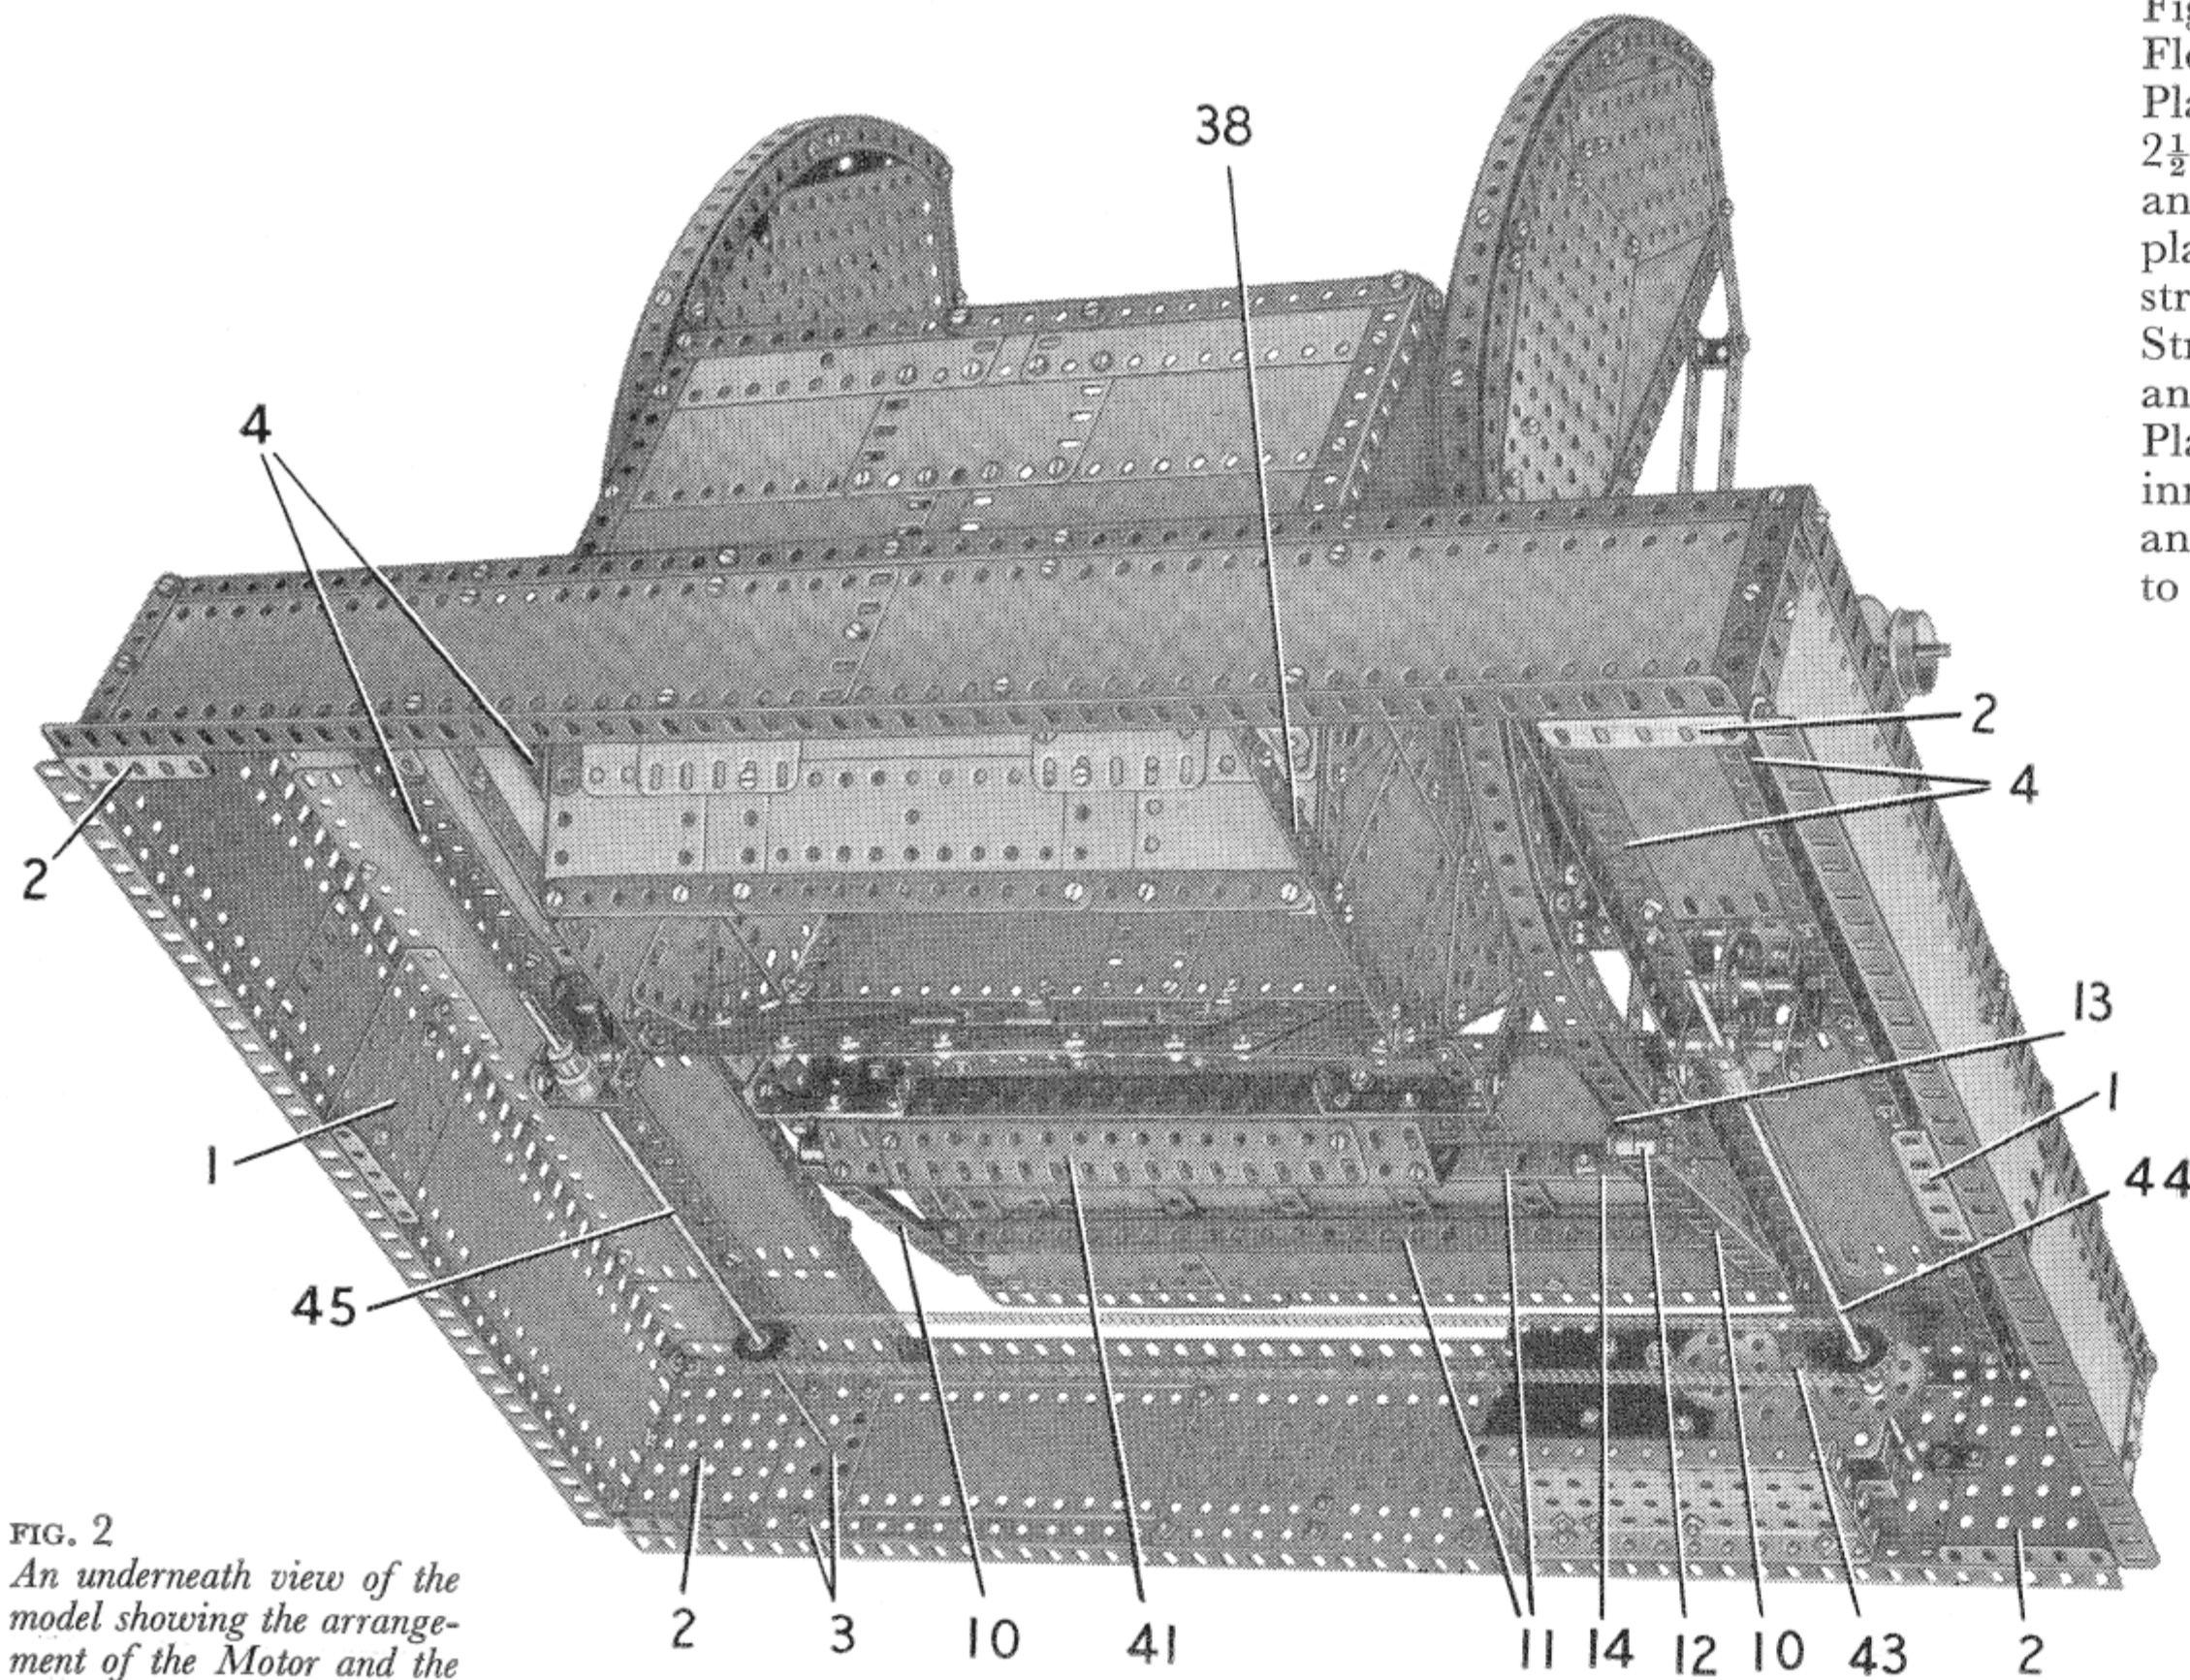
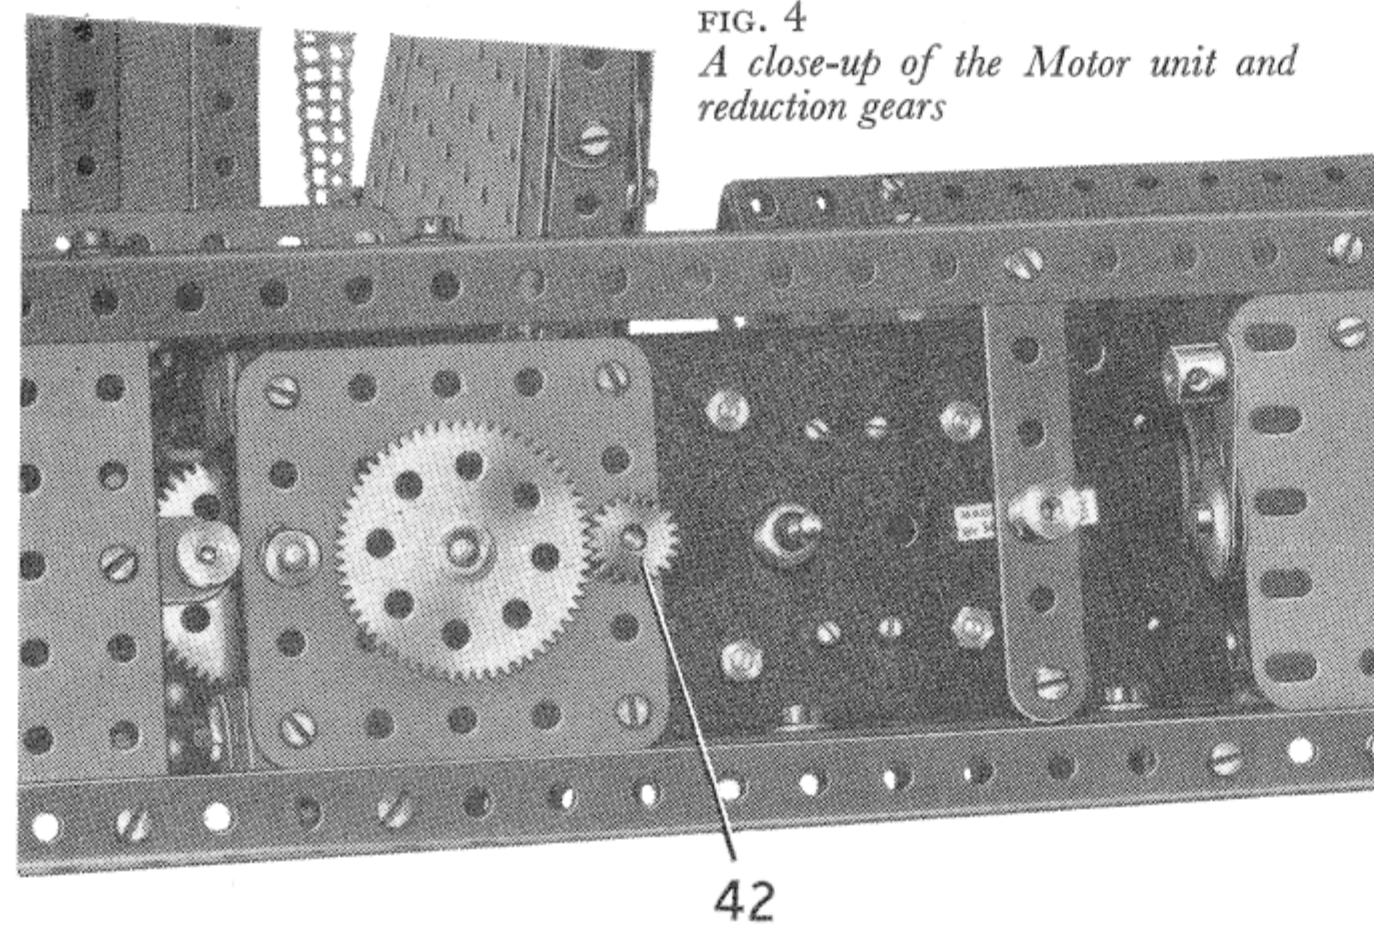

FIG. 2
FIG. 4
Construction of the Model: The Base (Fig. 2)
Each side of the base consists of two $18\frac{1}{2}$ " Angle Girders joined at their ends by $3\frac{1}{2}$ " Angle Girders, and connected at the centre by a $3\frac{1}{2}$ " \times $2\frac{1}{2}$ " Flanged Plate (1) (Fig. 2). The sides are filled in by $12\frac{1}{2}$ " \times $2\frac{1}{2}$ " Strip Plates. The sides are connected at the front and the back by $24\frac{1}{2}$ " Angle Girders, with the corners strengthened by $3\frac{1}{2}$ " \times $2\frac{1}{2}$ " Flanged Plates (2). The $24\frac{1}{2}$ " Angle Girders are braced at the centre by $5\frac{1}{2}$ " \times $3\frac{1}{2}$ " Flat Plates, and at the front two 3 " \times $1\frac{1}{2}$ " Flat Plates (3) are bolted between the Girders. The front and the back are completed by $12\frac{1}{2}$ " \times $2\frac{1}{2}$ " Strip Plates, as shown in Figs. 1 and 2.
Two $18\frac{1}{2}$ " Angle Girders (4) are bolted across the top of the base at each end (Fig. 2). A $12\frac{1}{2}$ " \times $2\frac{1}{2}$ " Strip Plate, three $4\frac{1}{2}$ " \times $2\frac{1}{2}$ " Flexible Plates and two $5\frac{1}{2}$ " \times $2\frac{1}{2}$ " Flexible Plates, are bolted to these Girders at each end to fill in the top.
The Operating Mechanism (Figs. 2, 4 and 7)
A ½" Pinion on the Motor armature shaft drives a 57-tooth Gear on a 2½" Rod that carries also a ½" Pinion (42) (Fig. 4). This Pinion engages a 57-tooth Gear on another 2½" Rod fitted with a ½" Pinion (43) (Fig. 2), and the latter Pinion drives a 57-tooth Gear on an 11½" Rod (44) mounted as shown. Rod (44) carries a 1" Sprocket that is connected by Chain to a similar Sprocket on another 11½" Rod (45).